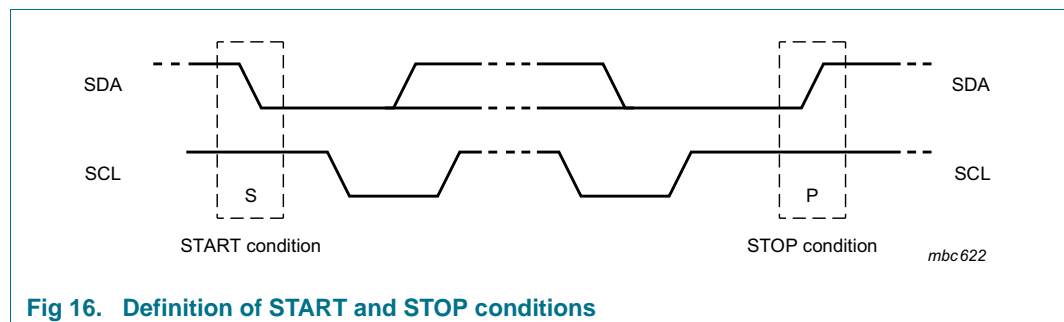

Fig 16. Definition of START and STOP conditions
A LOW-to-HIGH change of the data line, while the clock is HIGH, is defined as the STOP condition (P). The START and STOP conditions are illustrated in Figure 16.